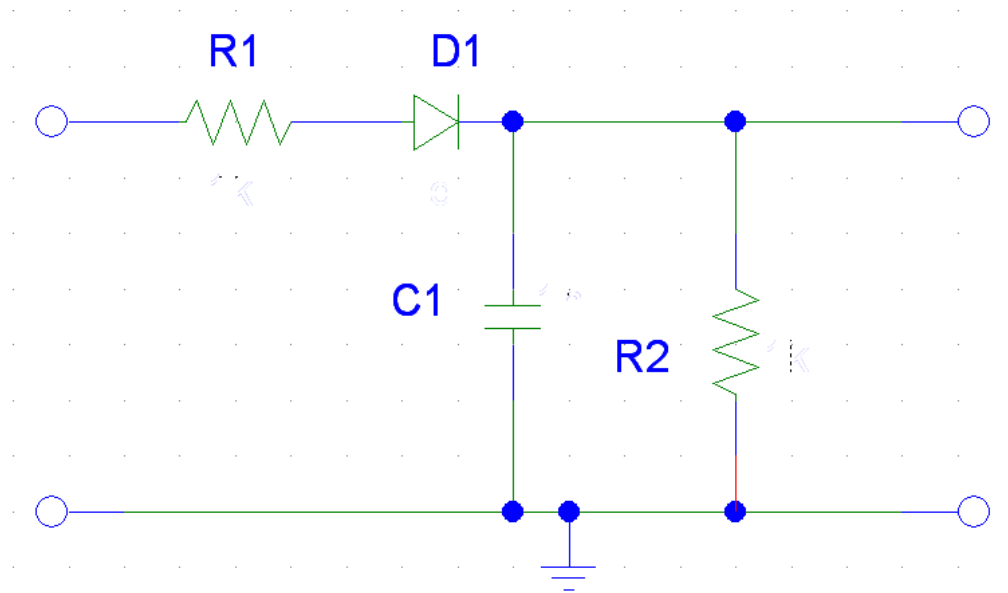

Figure 4: Envelope Detector Circuit.
1. Build the envelope detector circuit shown in figure 4. The diode is IN4148.